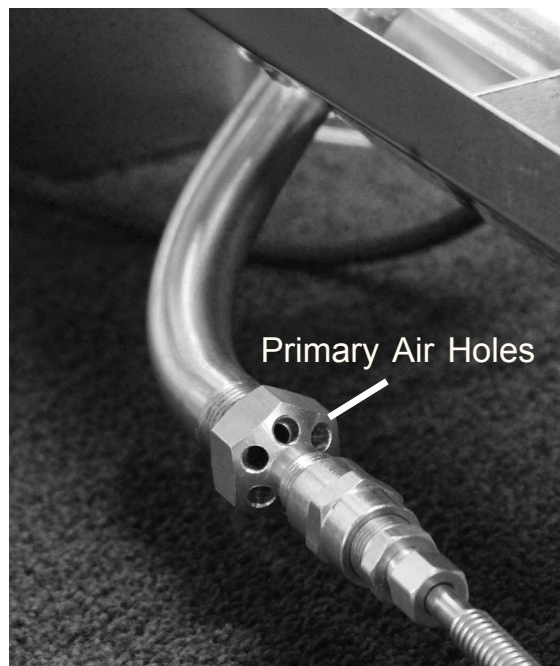

Figure 10 - Air Mixer/Injector on BurnerTube (LP models only)
3. Blow air into the primary air holes on the injector (see Figure 10).